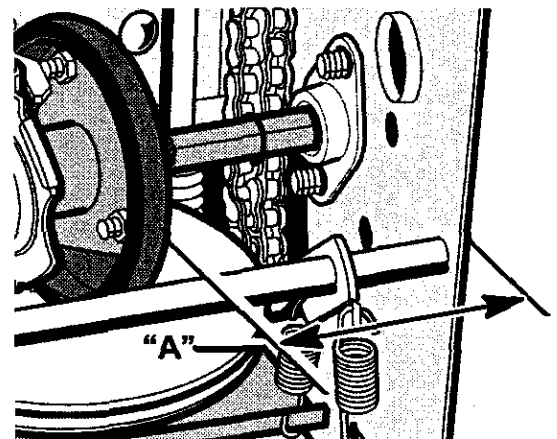

Figure 38
7. Note the position of the **friction wheel** (see Figure 38). The correct distance "A" from the right side of the **friction wheel** to the outside of the motorbox is as follows:
3. Move the **friction wheel** to the correct position (see Figure 38).